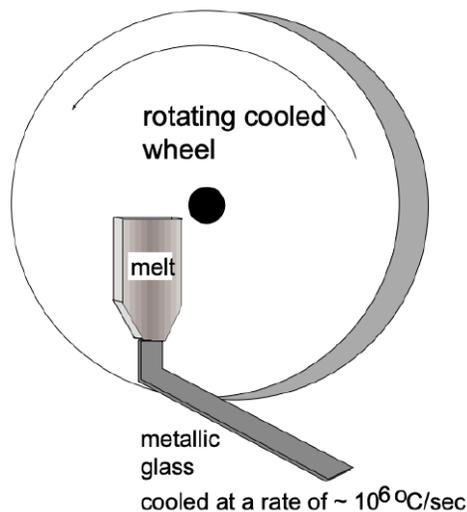

Figure 3 Production of metallic glass by melt spinning
The existence of metallic glasses shows the generality of the glass-forming process. In addition, the physical picture in this case is especially simple. Even with the highest presently attainable cooling rates (up to 10^7 °C/s), no "pure" metal has yet been obtained in a glassy state. However, if the liquid is an alloy of two (or more) metals whose atoms differ greatly in size, the crystallization process is more difficult and can be prevented in many instances by extremely rapid cooling of the melt (10^6 °C/sec). The two experimental techniques for rapid cooling are (1) propelling a liquid drop at high velocity and "splating" it against a cooled copper surface, (2) flattening a liquid drop between a piston and an anvil or between two rolls and (3) "spinning" the melt by transferring it in a continuous mode onto a rapidly rotating, cooled wheel (fig. 3). X-ray patterns of the solidified alloys are similar to those of liquid metals - this and other evidence suggest that they are "amorphous", that their structure is that of a glass.